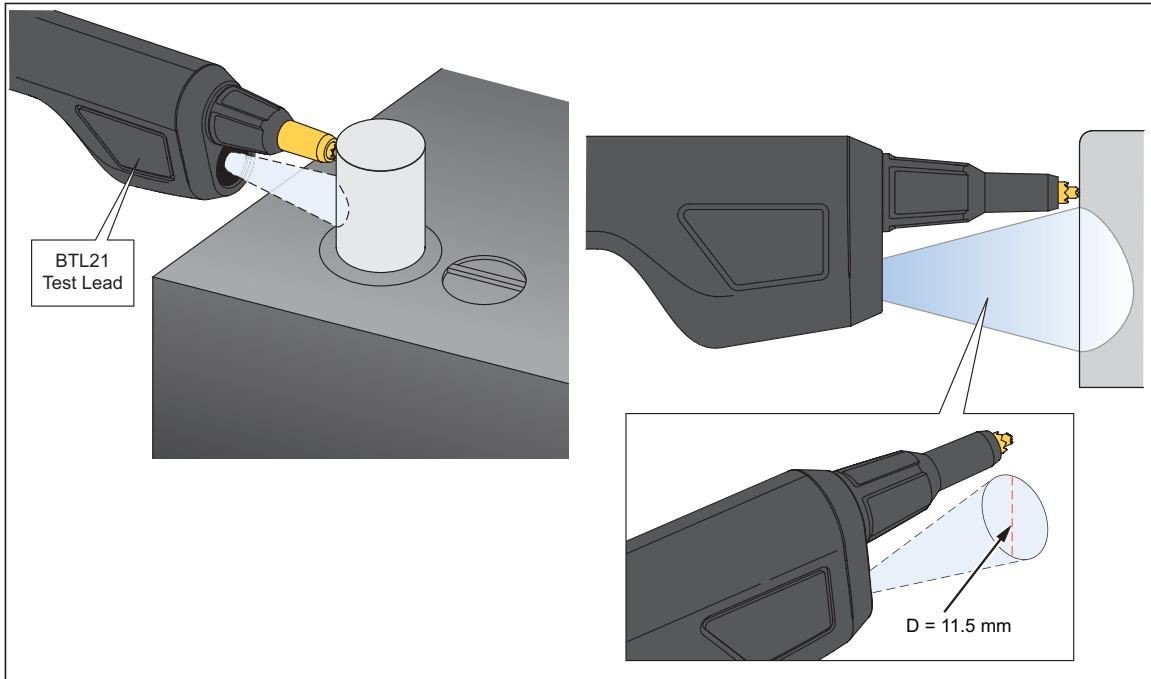

Figure 4-5. Measure the Temperature of a Battery Pole
2. Adjust the test lead to let the entire flare fall on the battery pole. See Figure 4-5.
Figure 4-5 shows the measurement field of a battery pole.